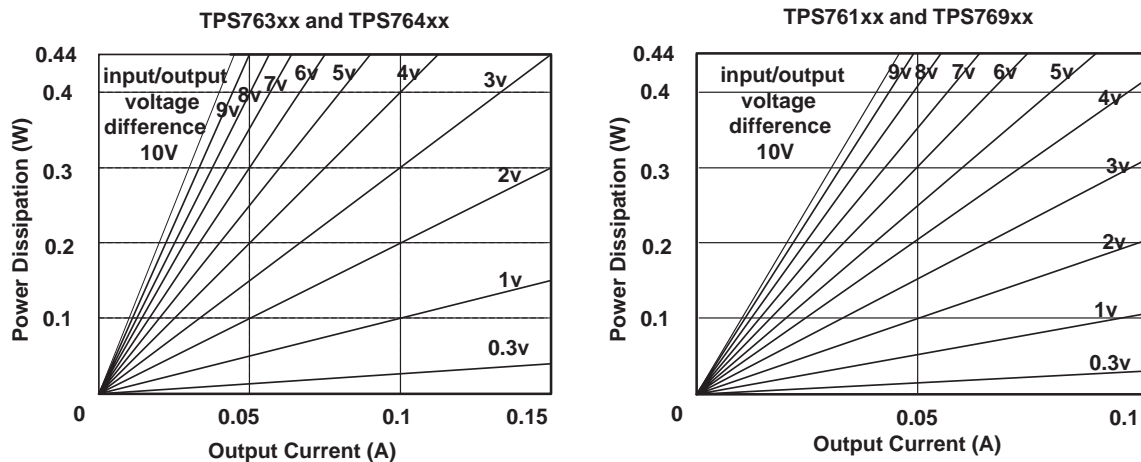

Figure 14. Power Dissipation vs Output Current
Figure 14 shows the safe operating area for several TI LDO regulators in terms of output current, input/output voltage difference, and dissipation power, which are calculated by using equation (11). Calculate maximum power dissipation $P_{D(\text{max})}$ by using equation (10). The calculated $P_{D(\text{max})}$ must not exceed the safe area shown in the figures. The thermal protection shuts the regulator off if the junction temperature rises above 165°C. Recovery is automatic when the junction temperature drops approximately to 140°C, where regulator operation resumes.